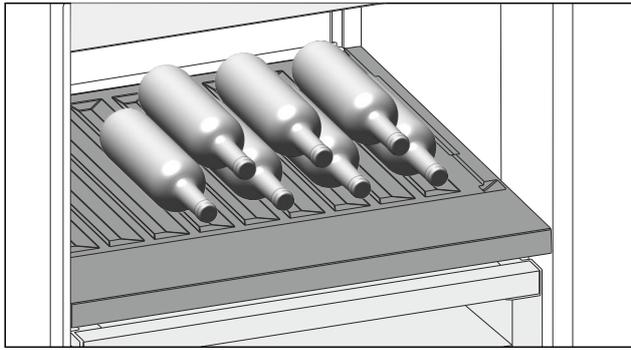

Fig. 123
- ▶ Place bottles in the back row with their bases against the back wall. (see Fig. 123)